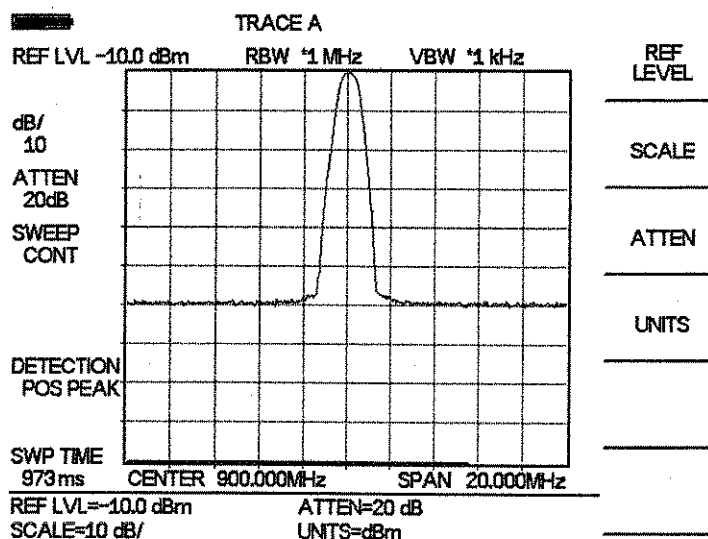

Figure 2-7 Reference Level set at  $-10$  dBm
Generally, placing the signal peak at the reference level provides the best measurement accuracy. The following steps will adjust the signal peak to the reference level (Figure 2-7).
- Step 4.** Press the **+/-** key and **10** on the keypad and press **ENTER** to set the reference level to  $-10$  dBm. Observe that the display resembles that shown in Figure 2-7.